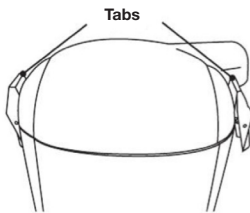

Fig. 13
1. Ensure the Power Cord (9) is disconnected from the power outlet, unplug the Flexible Hose (6) from the Canister Lid (1) by rotating the Flexible Hose to the left and pulling down.
2. To open the Canister Lid, pull out the bottom of the Canister Lid Tabs (2) on each side of the unit, release from the Canister Lip Clip and lift the Canister Lid (Fig. 13).